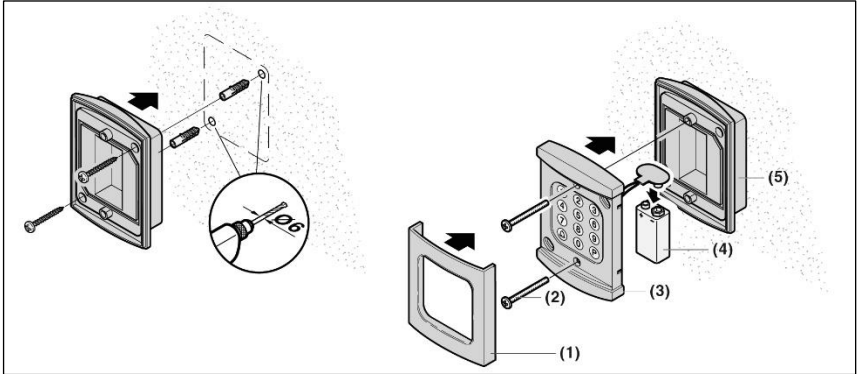

Fig. 1
3 Device description (Fig. 1 and Fig. 2)
4.1 Installing the wireless keypad (Fig. 1)